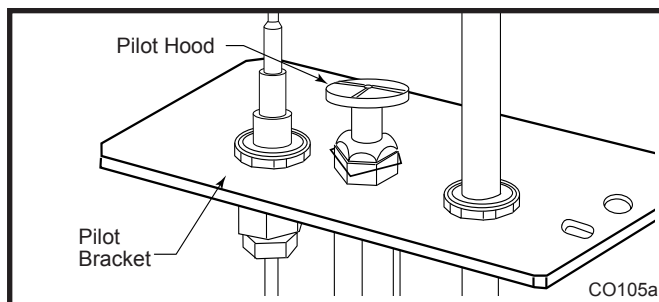

Fig. 78 Remove pilot hood.
3. Remove pilot hood by lifting up. (Fig. 78) Do not remove the snap ring to remove the pilot hood. **NOTE:** It is not necessary to remove the pilot tube for conversion.